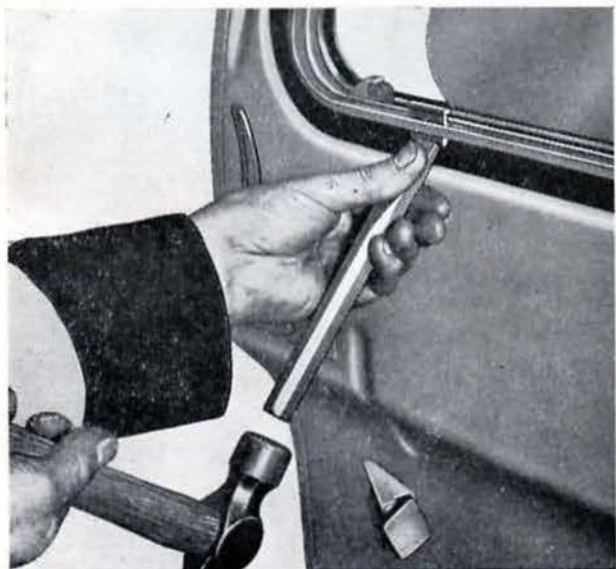

Fig. W.5. Removing one of the wedges securing a front door window frame
1. Using a flat-ended tool, drive out the wedges (Fig. W.5) securing the window frame to the door. If a wedge is difficult to remove, apply pressure to the outside of the frame and opposite the wedge to be removed.